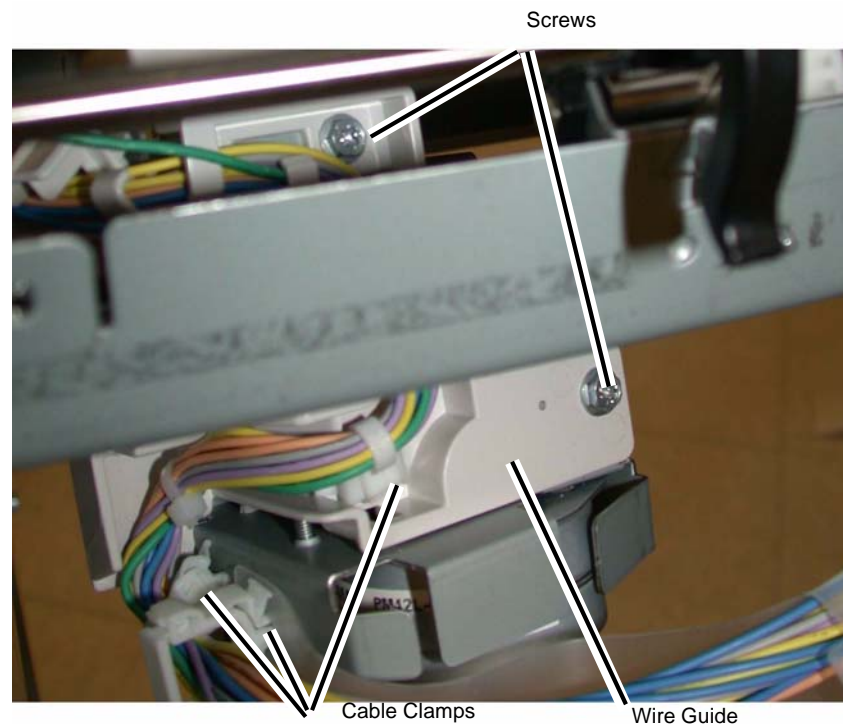

Figure 2 Removing the Wire Guide
5. Remove the Wire Guide (Figure 2).
- a. Pull out the Cable Clamps (3), and remove the wires from the Wire Guide.
- b. Remove the Screws (2).